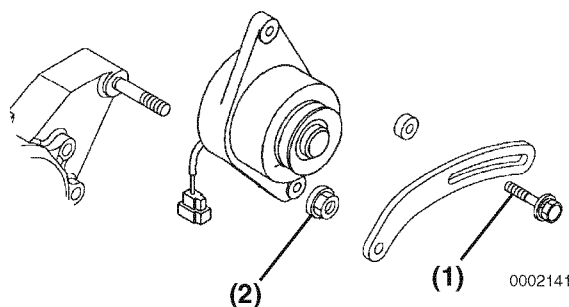

Figure 12-23
3. Remove the V-belt adjuster from the dynamo bolt (**Figure 12-23, (1)**).
4. Remove the nut (**Figure 12-23, (2)**) from the gear case stud. Remove the dynamo.